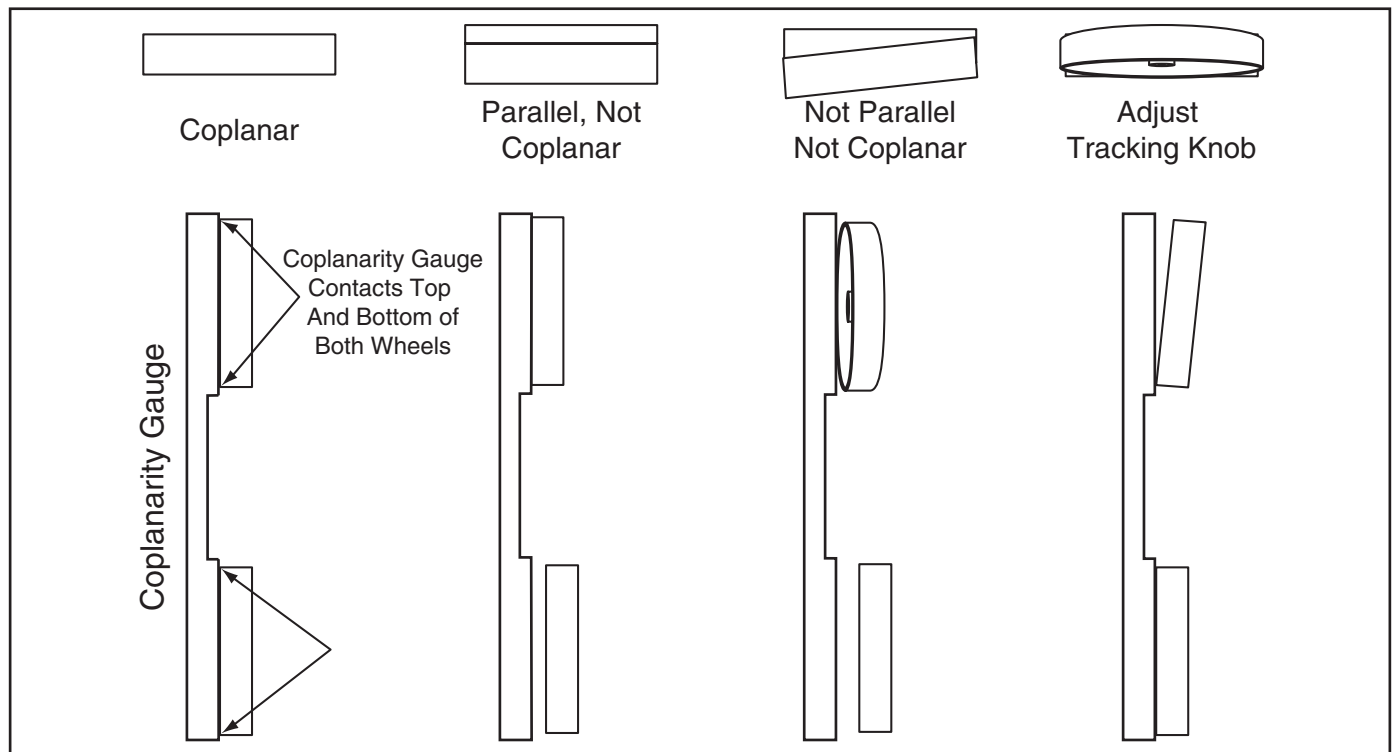

Figure 67. Coplanarity diagram.
8. **Figure 67** shows the positions of the wheels when coplanar. When your wheels are coplanar, readjust the guide blocks and rear support bearings, and replace the wheel covers.